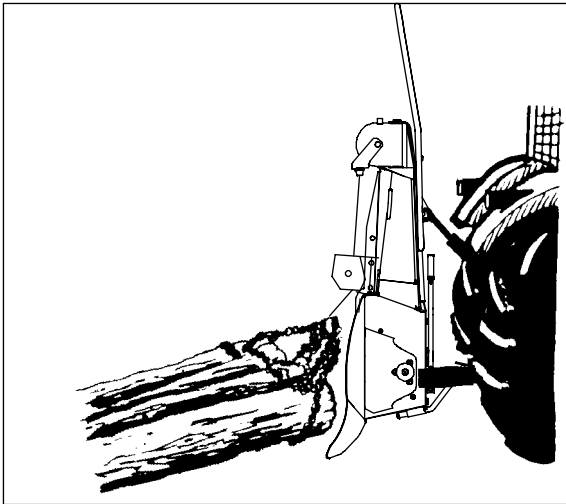

Fig. 12. Winching over the lower snatch block
3. Raise the 3-point hitch so that the logs come off ground (fig. 12.).